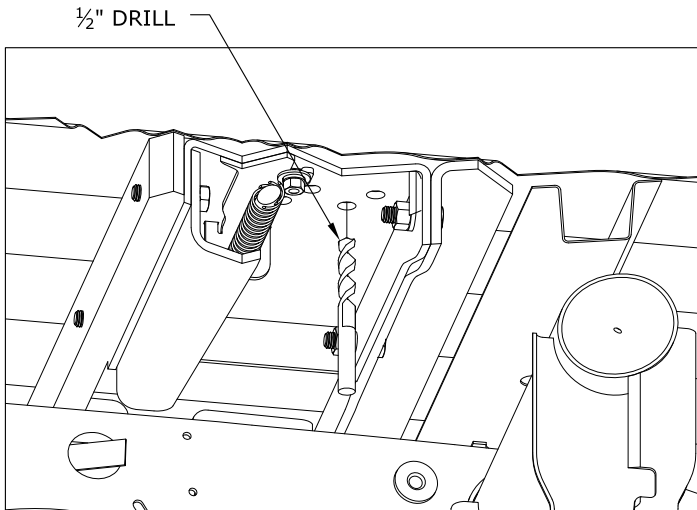

FIGURE F2: Cut away view of bed and center section
1. **Drill the holes.** From under the bed use a drill and a $\frac{1}{2}$ " drill bit to drill through the bed using the four holes that match up with a low rib in the truck as a guide. Remove any burrs created during the drilling process, see figure F2.